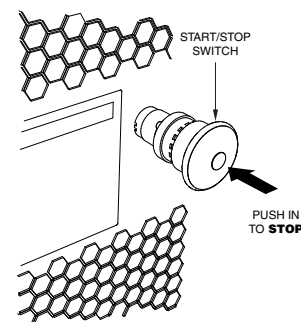

Figure 21. Start/Stop Switch (OFF Position)
- After the engine cools, push the Start/Stop switch on the engine cover inward to the **"OFF"** position (Figure 21).